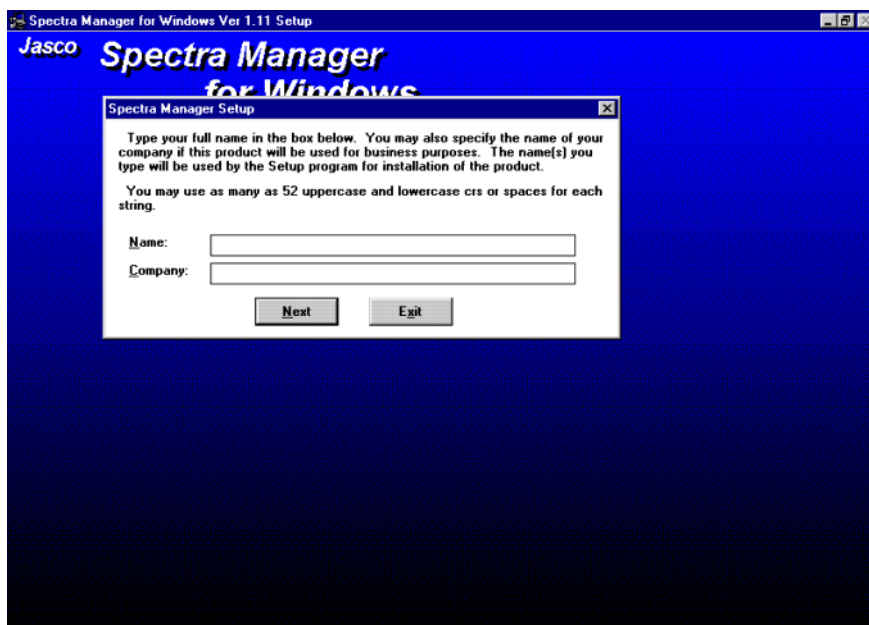

Fig. 9.6 [Spectra Manager] for Windows Setup
- (5) Click the <Finish> button. The screen shown in Fig. 9.6. appears.
- (1) Input the name of the operator or company in the text box shown in Fig. 9.6. The name input is registered in the system. This procedure can be omitted if registration is unnecessary.